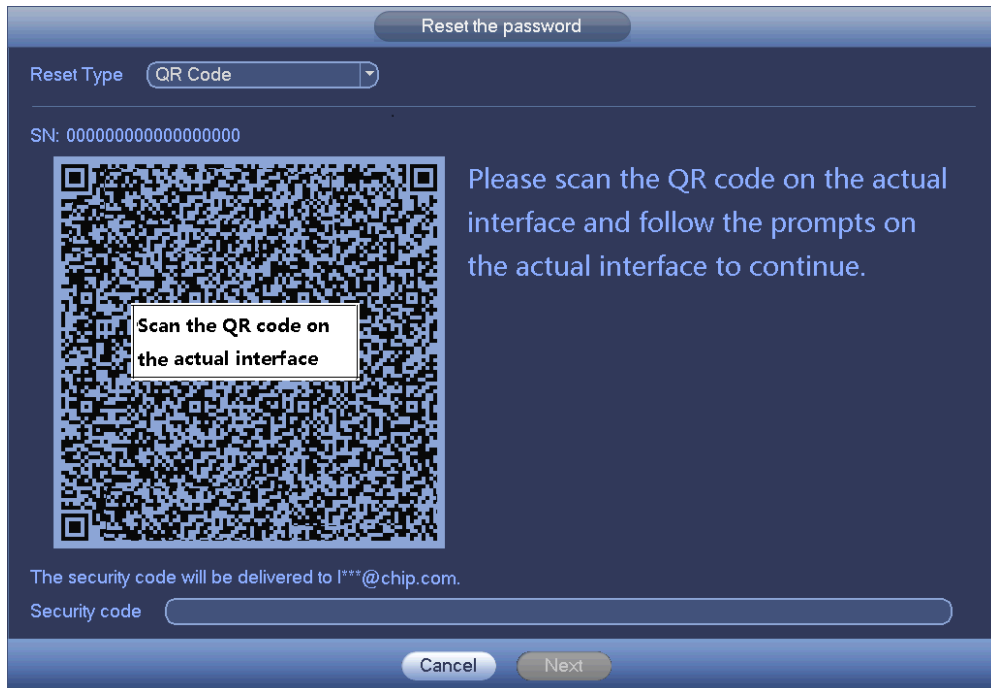

Figure 4-8
Step 3 Click OK button and device goes to Figure 4-8
In Figure 4-8, follow the prompts on the interface to scan the QR code, and then input the security code you get via the assigned email.